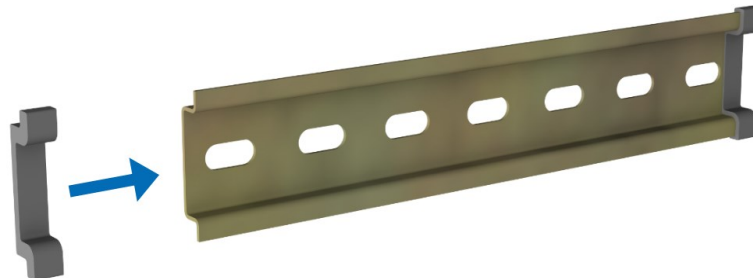

FIGURE B-2. DIN-rail end caps
1. Slide a DIN-rail end cap onto each end of the DIN rail (FIGURE B-2 (p. 33)).